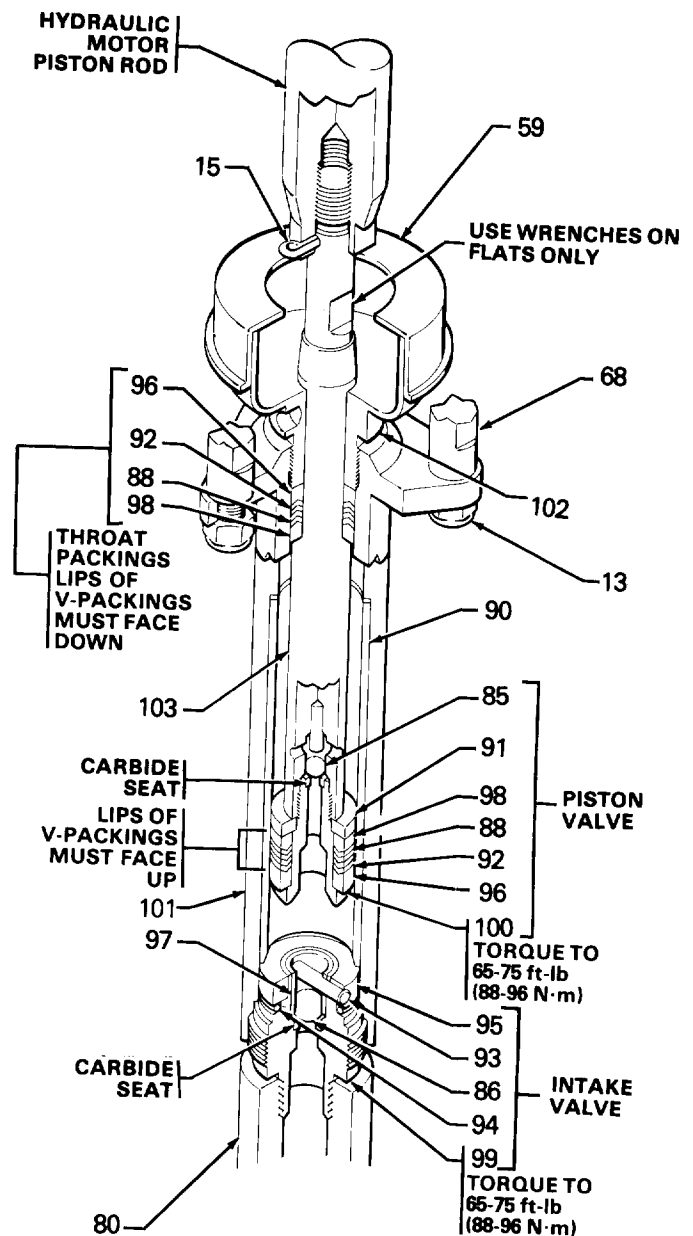

Fig 9
1. Unscrew the three tie rod nuts (13) and pull the displacement pump (84) down off the rods. This will also pull the hydraulic motor piston down.
2. Remove the cotter pin (15) from the hydraulic motor's piston rod. See Fig 9.
3. Rotate the displacement pump to unscrew the displacement rod (103) from the motor piston. If necessary, use a wrench on the flats of the displacement rod to unscrew it.
4. Unscrew the three tie rods (68) and remove the hydraulic motor.
1. Screw the extension tube (80) or union off the displacement pump intake valve housing (99). Remove the retaining ring (78) and strainer (79) from the extension tube and put them in a container of clean solvent.
2. Screw the intake valve housing (99) out of the pump housing (101). Remove the pin (93), retainer (95), o-ring (94), guide (97) and ball (86). See Fig 9. Put the parts in solvent to soak. Inspect the ball seat on the intake valve housing for wear or damage, and replace the housing if any is present.
3. Remove the shield (119) and hydraulic motor (104), and disconnect the displacement rod (103) as explained under "Removing the Hydraulic Motor".
4. Loosen the packing nut (102). Push the displacement rod (103) down and pull it and the piston out the bottom of the housing (101). See Fig 9.